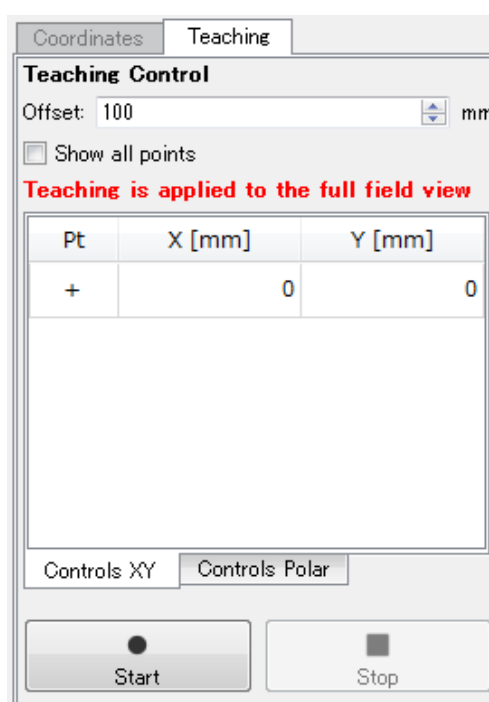

Figure 7-45 Teaching setting
- Click the "Start" button (Figure 7-45) to start recording the background data. Recording will continue until the stop button is clicked